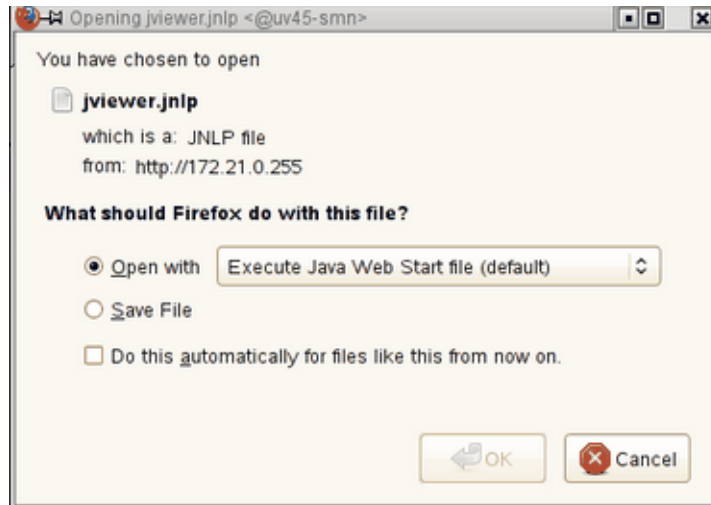

Figure 3-5 Select Execute Java Web Start file (default) Pop-up Menu
8. A Java application under Firefox will open. **Select Execute Java Web Start file (default)** from the pop-up menu, as shown in Figure 3-5 on page 42. You can also click the checkbox to keep it from showing up later.